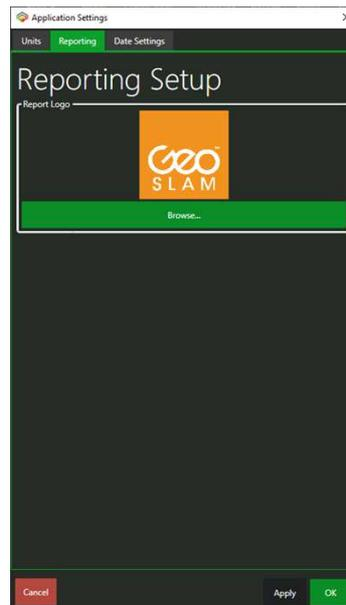

Figure 54. Reporting Setup tab.
3. Select -> **Reporting** tab (Figure 54).